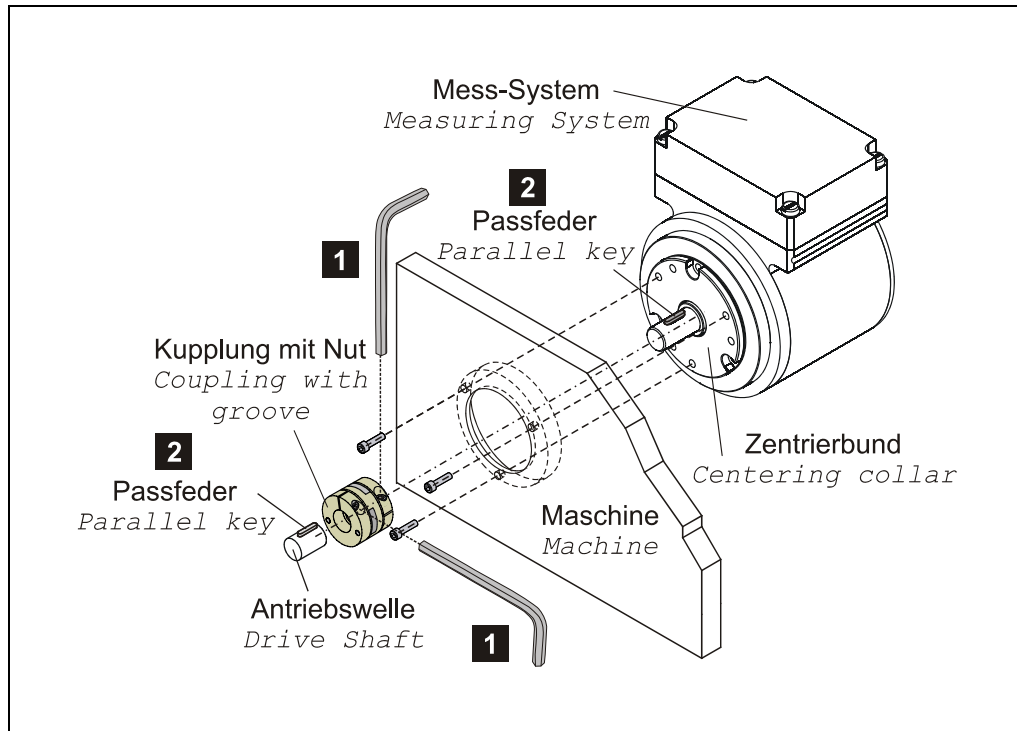

Fig. 2: Flange assembly
- The coupling fixing should prevent axial slippage of the measuring system on the drive shaft, see Figure 2, **1**.
- Positive locking using a parallel key/groove combination (Fig. 2, **2**) should prevent radial slippage of the measuring system on the drive shaft; a coupling with groove should be used for this purpose.